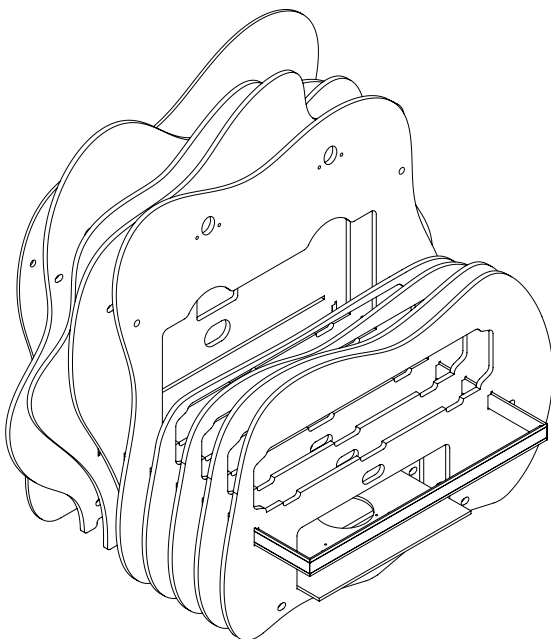

Figure 9.
- Slide the channel into the slots until it reaches the end of its travel (Figure 9)